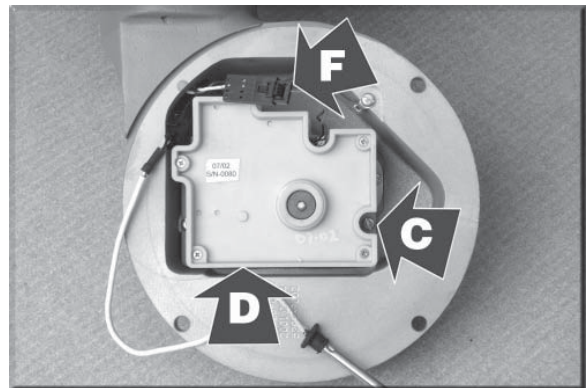

Fig. 9 Security Cap Seal & Mounting Screws
- Install new register (Fig. 9 “D”) into register cover and secure with three M3 pan head screws (Fig. 9 “C”), p/n 52620P003 using Quick-Wedge® No. 1734 04241 screw starter (Or Similar).
- Connect register pulser switch connection (Fig. 9 “F”).